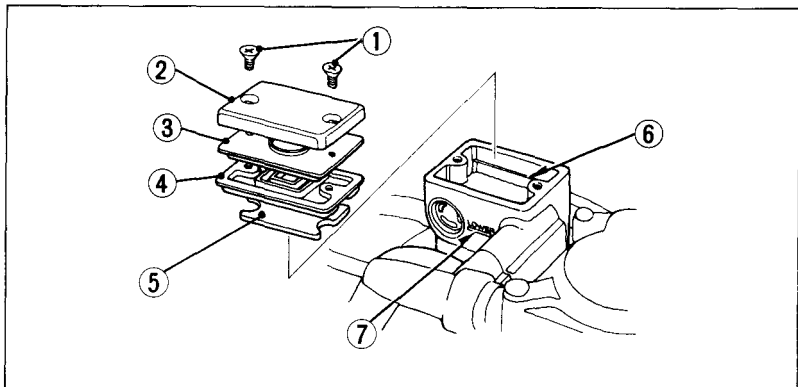

Fig. 4-24
Brake fluid must be added to the reservoir (Fig. 4-24) whenever the fluid level approaches the lower level mark (7). Use only DOT 3 or 4 brake fluid.